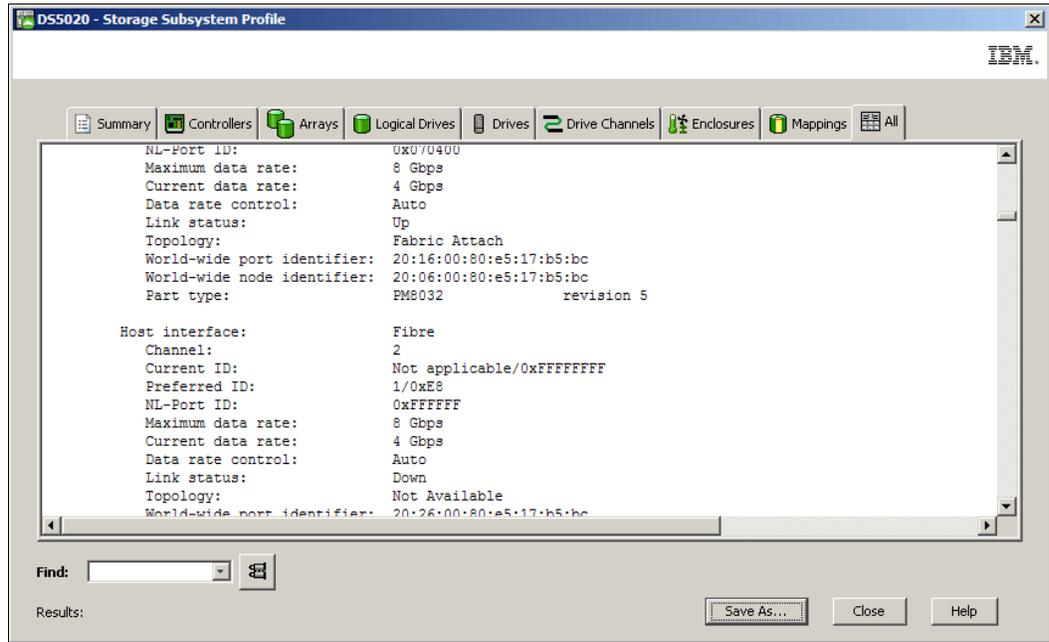

Figure 10-46 Storage Subsystem Profile View
- ▶ The Storage Subsystem Profile opens as shown in Figure 10-46.